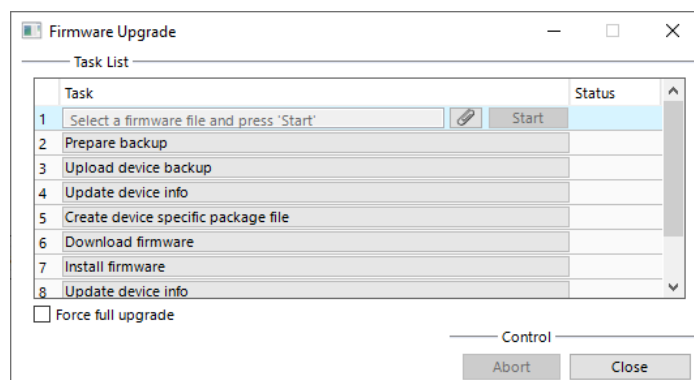

Figure 111: Firmware Update dialog of the Configurator.
8. This opens the **Firmware Update** dialog as shown in Figure 111. Click on the button  and select the firmware image.